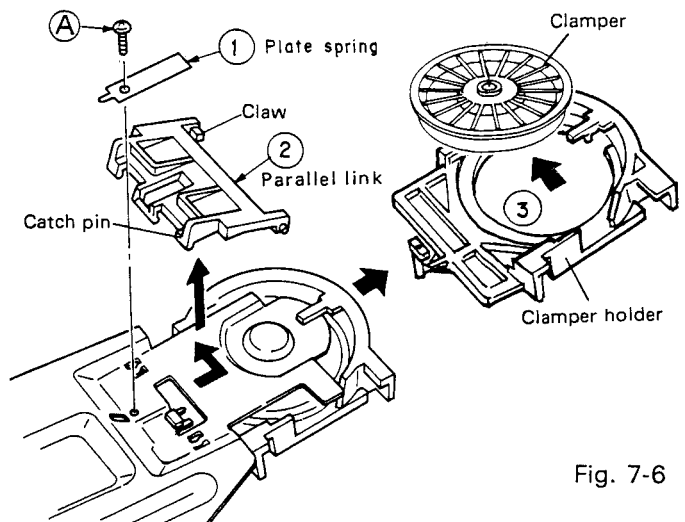

Fig. 7-6
7.5 REMOVING THE CLAMPER (Fig. 7-6)
- ① Remove the plate spring by unscrewing screw A.
- ② Remove the parallel link by sliding it in the direction of the arrow. (Be careful not to damage the claw located on one side of the link.)
- ③ The clamber can be removed by sliding the clamber holder in the direction of the arrow.